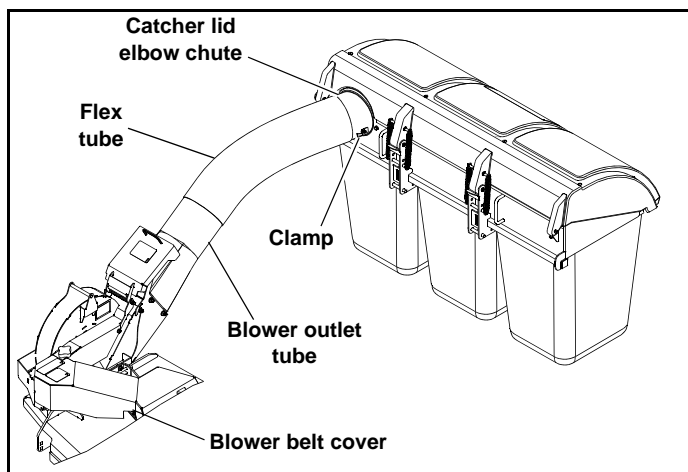

Figure 4-2
2. Remove the flex tube from the catcher lid elbow chute and blower outlet tube. Figure 4-2
3. Remove the blower outlet tube from the blower assembly. Figure 4-2
4. Remove the blower belt cover from the deck. Figure 4-2